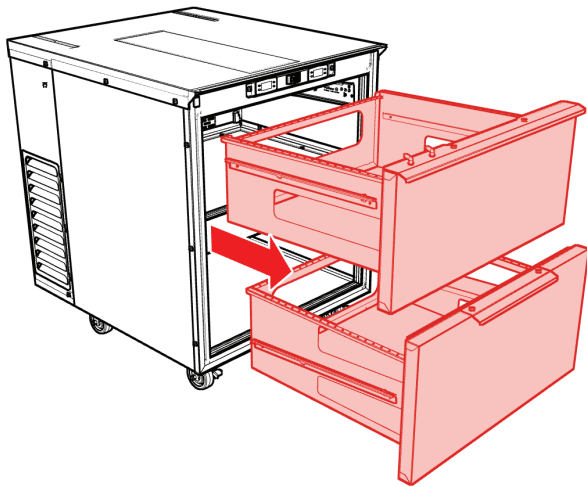
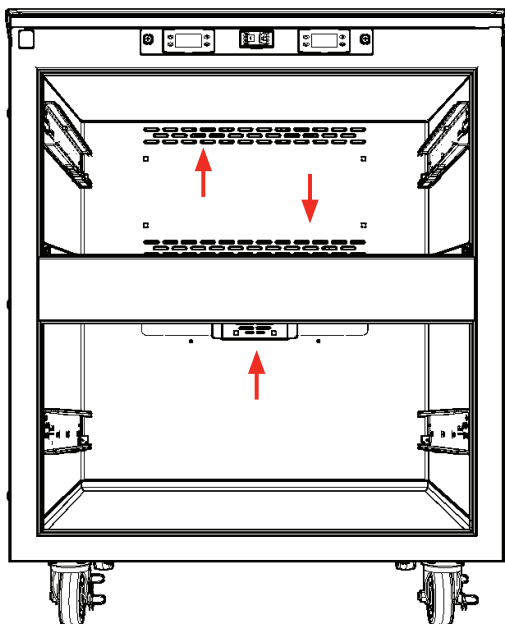

Fig. 2
Fig. 3
3. Remove drawers (Fig. 2) (refer to *Drawer Removal*, Page 8) and inspect unit to ensure fans and air return holes are clear (Fig. 3).